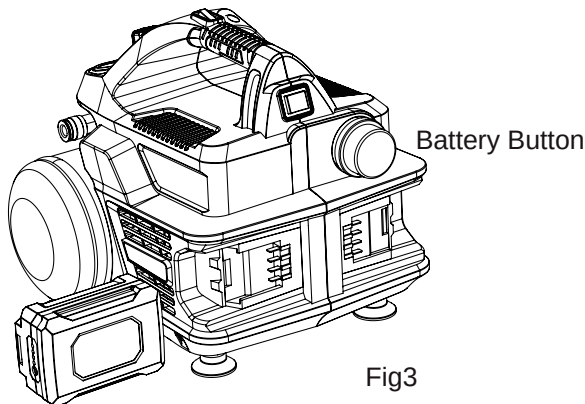
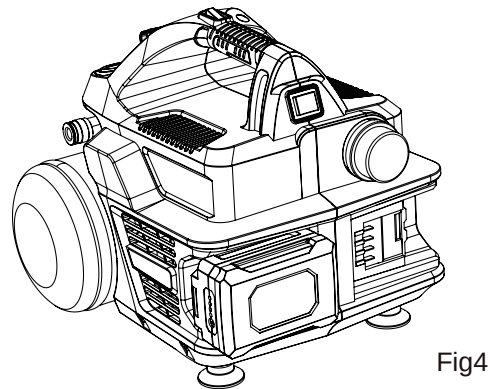

Fig3
Fig4
1. Completely insert the battery into the powerhead along with the card slot until the battery button bounces up. (See Fig. 3 & Fig. 4) Note: Second battery can be installed if necessary.